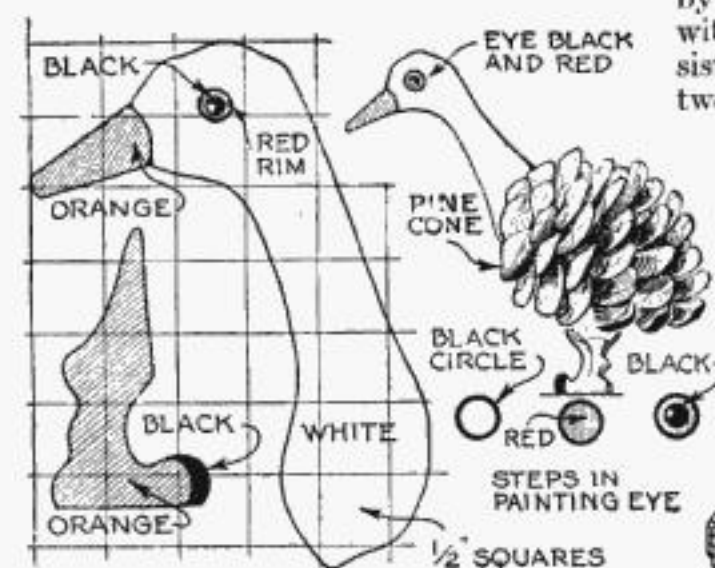

Fig. 3. Amusing toy goose composed of a pine-cone body and wooden head and legs.
**F**OR making the pine-cone goose of Fig. 3, cut from  $\frac{1}{16}$ -in. soft pine two legs and a neck and head. Use the  $\frac{1}{2}$ -in. squares to aid in the enlargement. (Continued on page 129)